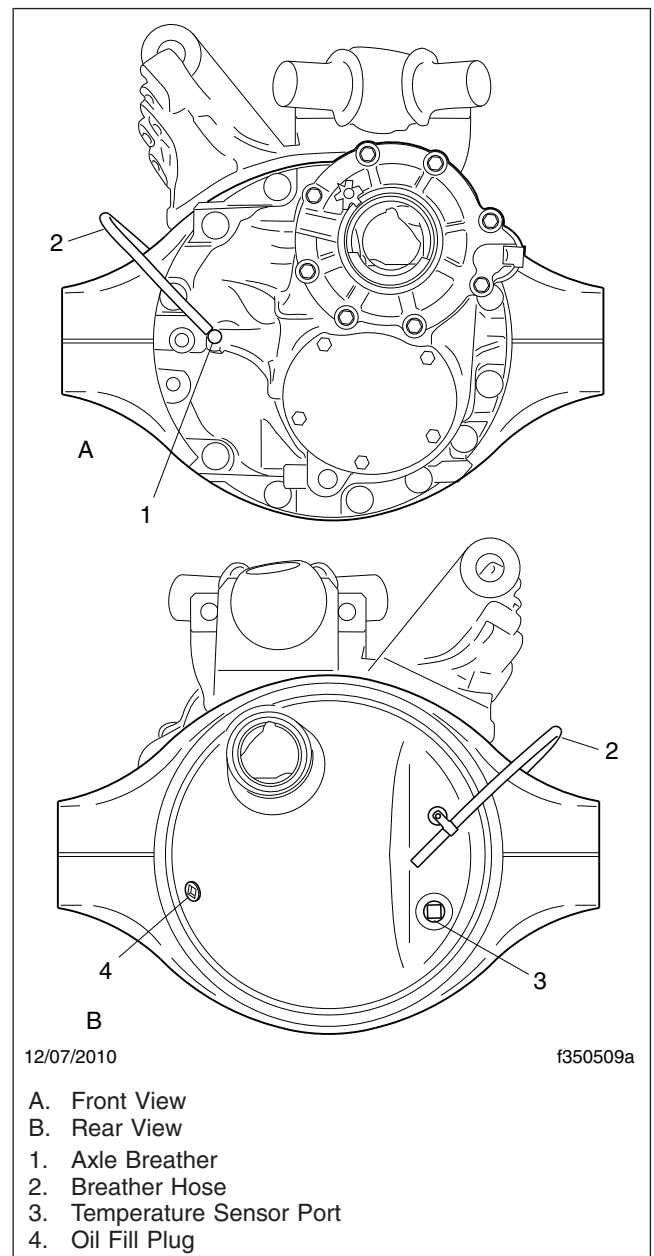
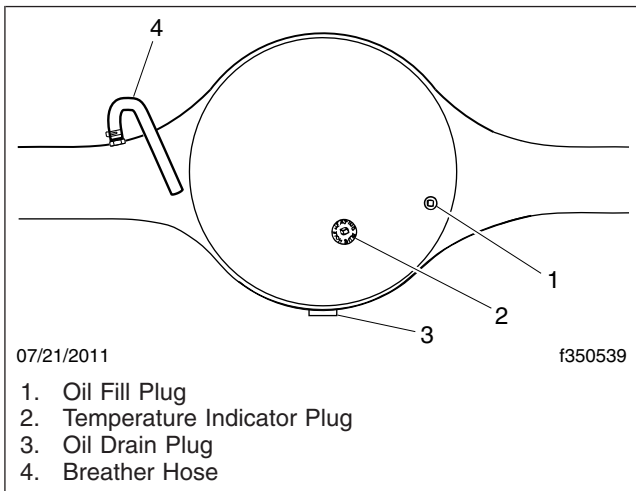
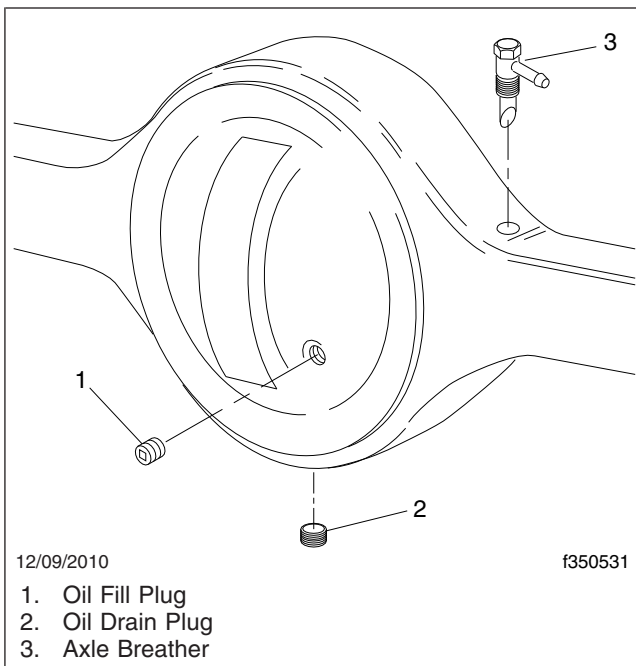

Fig. 1, Detroit Tandem Axle (forward axle shown)
Fig. 2, Plug and Breather Locations, Meritor Axles
Fig. 3, Plug and Breather Locations, Dana Spicer Axles
3. Clean the oil fill hole plug (located in the carrier or the side of the axle housing) and the area surrounding it, then remove the plug. For Detroit axles, see Fig. 1; for Meritor axles, see Fig. 2; for Dana Spicer axles, see Fig. 3.